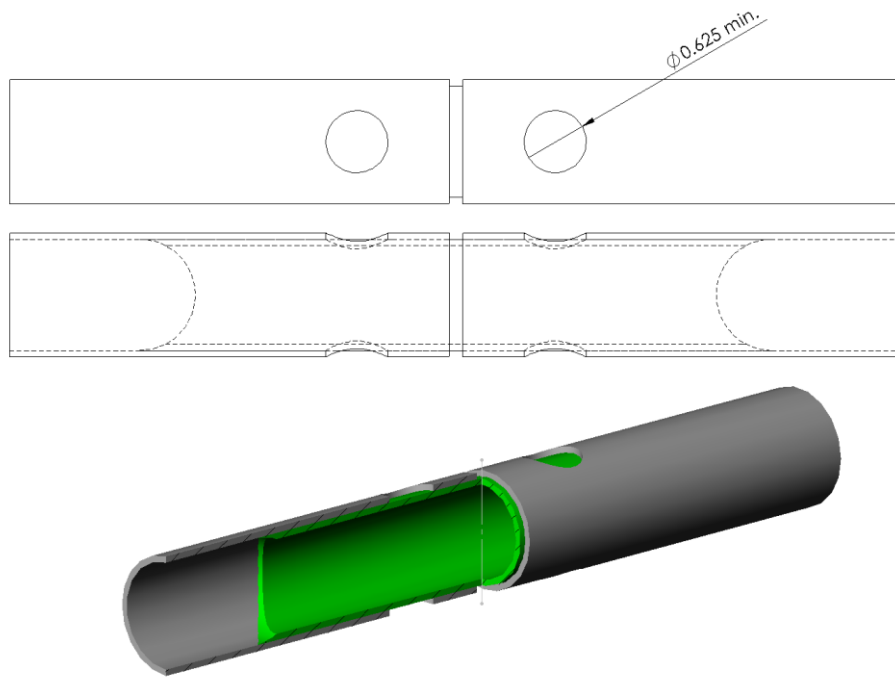

Figure B-20: Roll Cage, Butt Joint Sleeve
The general arrangement of an acceptable sleeved joint is shown in Figure B-20. A butt weld and four (4) rosette welds are required. Two (2) rosette welds are required on each tube piece. Rosette welds are to be made in holes of a minimum diameter of 16 mm (0.625 in.).